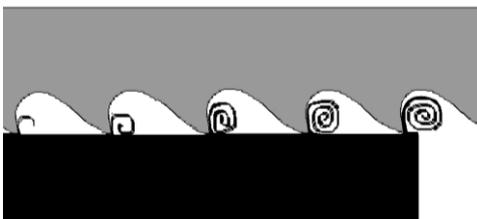

Figure 10-1: Blade Pitch Selection
- Parts with large transverse sections and solid sections need widely spaced teeth to allow for the greater volume of shavings and for a better tooth penetration (Fig 10-1).